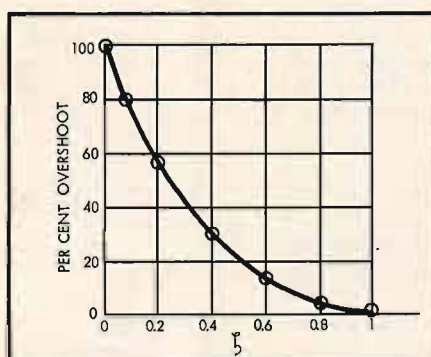

Fig. 4. Plot of overshoot vs. ζ (From "Automatic Feedback Control System Synthesis," J. Truxal, p. 39.)
Pilots and controls are mounted on the front chassis apron, as in Fig. 4. These can be rearranged to suit conditions and personal preferences except that the leads to the disabling switch, in the plate circuit of V_{2a} should be short and not too close to the input, or unwanted positive feedback may result.
Fig. 4. Pilots and controls on front chassis apron. Components, from left to right, are: power pilot, power switch, disabling switch, mode switch, and output pilot.
If we plot per cent overshoot to a square-wave input against ζ , we get the curve shown in Fig. 4, and if we plot the frequency response for various values of ζ , we get the curves of Fig. 5. With the quadratic responses of equations (6) and (10), it is possible to make any desired compromise between overshoot and performance near the cutoff frequency. The writer has chosen a ζ of 0.555, which